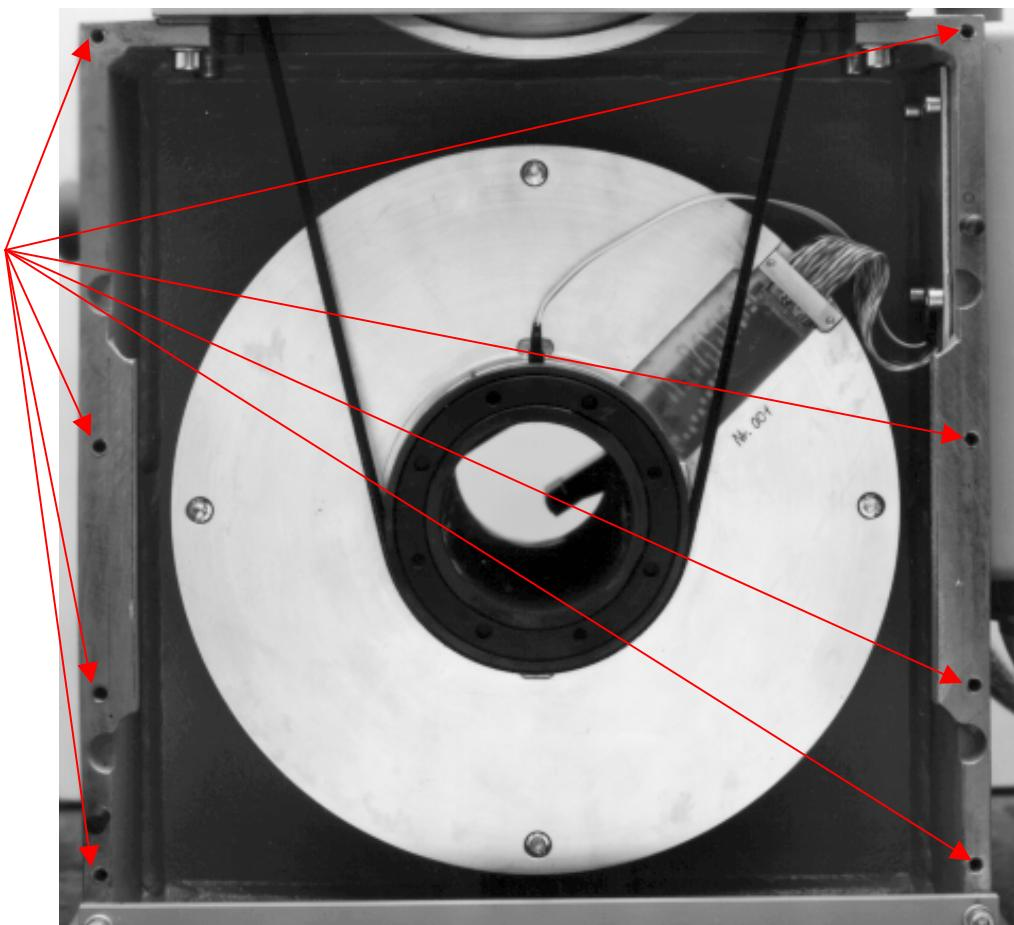

Fig. 5.13 Changing the cone belt, face plate removed
- Loosening the hexagon screw M 8x25 DIN 933 and lock M 8 DIN 934 (ref. to Fig. 5.13), lower the motor